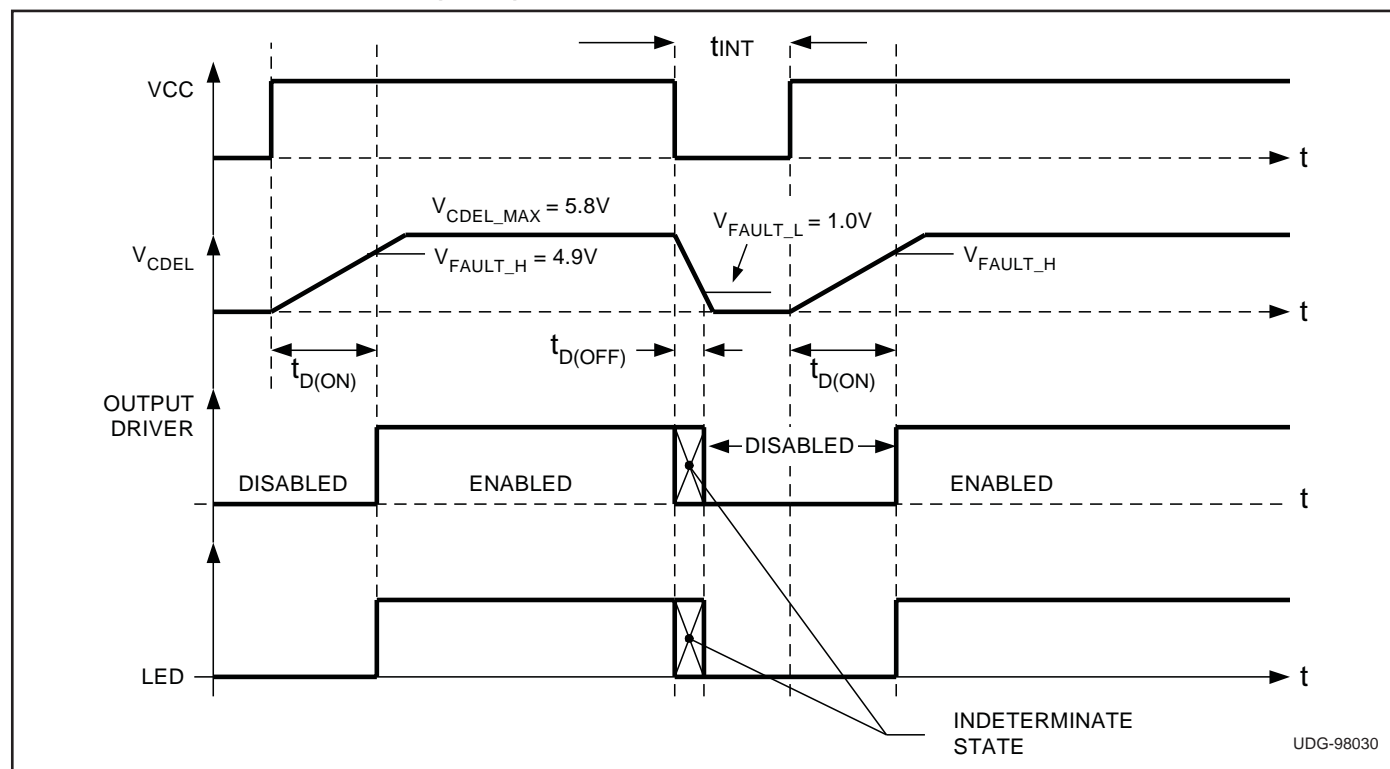

Figure 3b. Power interrupt fault operation, high side configuration,  $V_{IN} = 5VDC$ .
**LED:** Open collector output intended to drive an LED. This pin is driven low whenever the output is turned off and is externally pulled high when the output is turned on (see Fig. 3b and 3c).